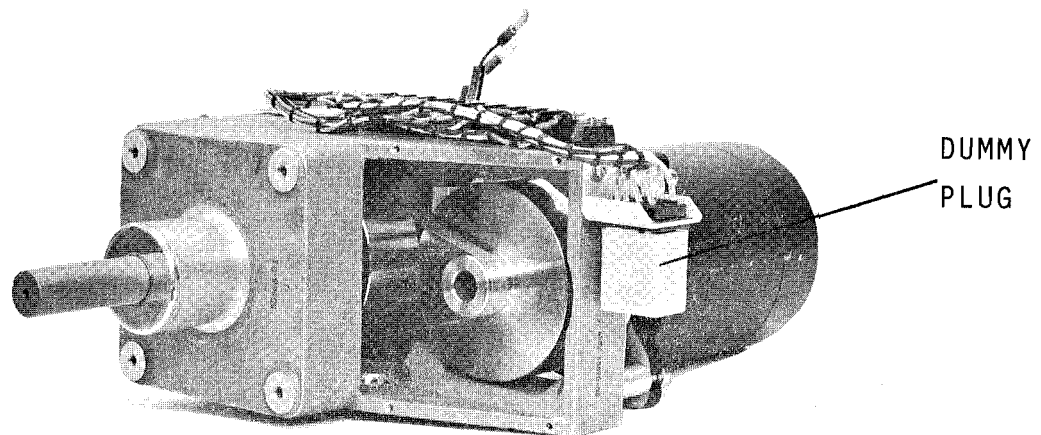

FIGURE 4-4
4.4 CAPSTAN ASSEMBLY, FIGURE 4-4